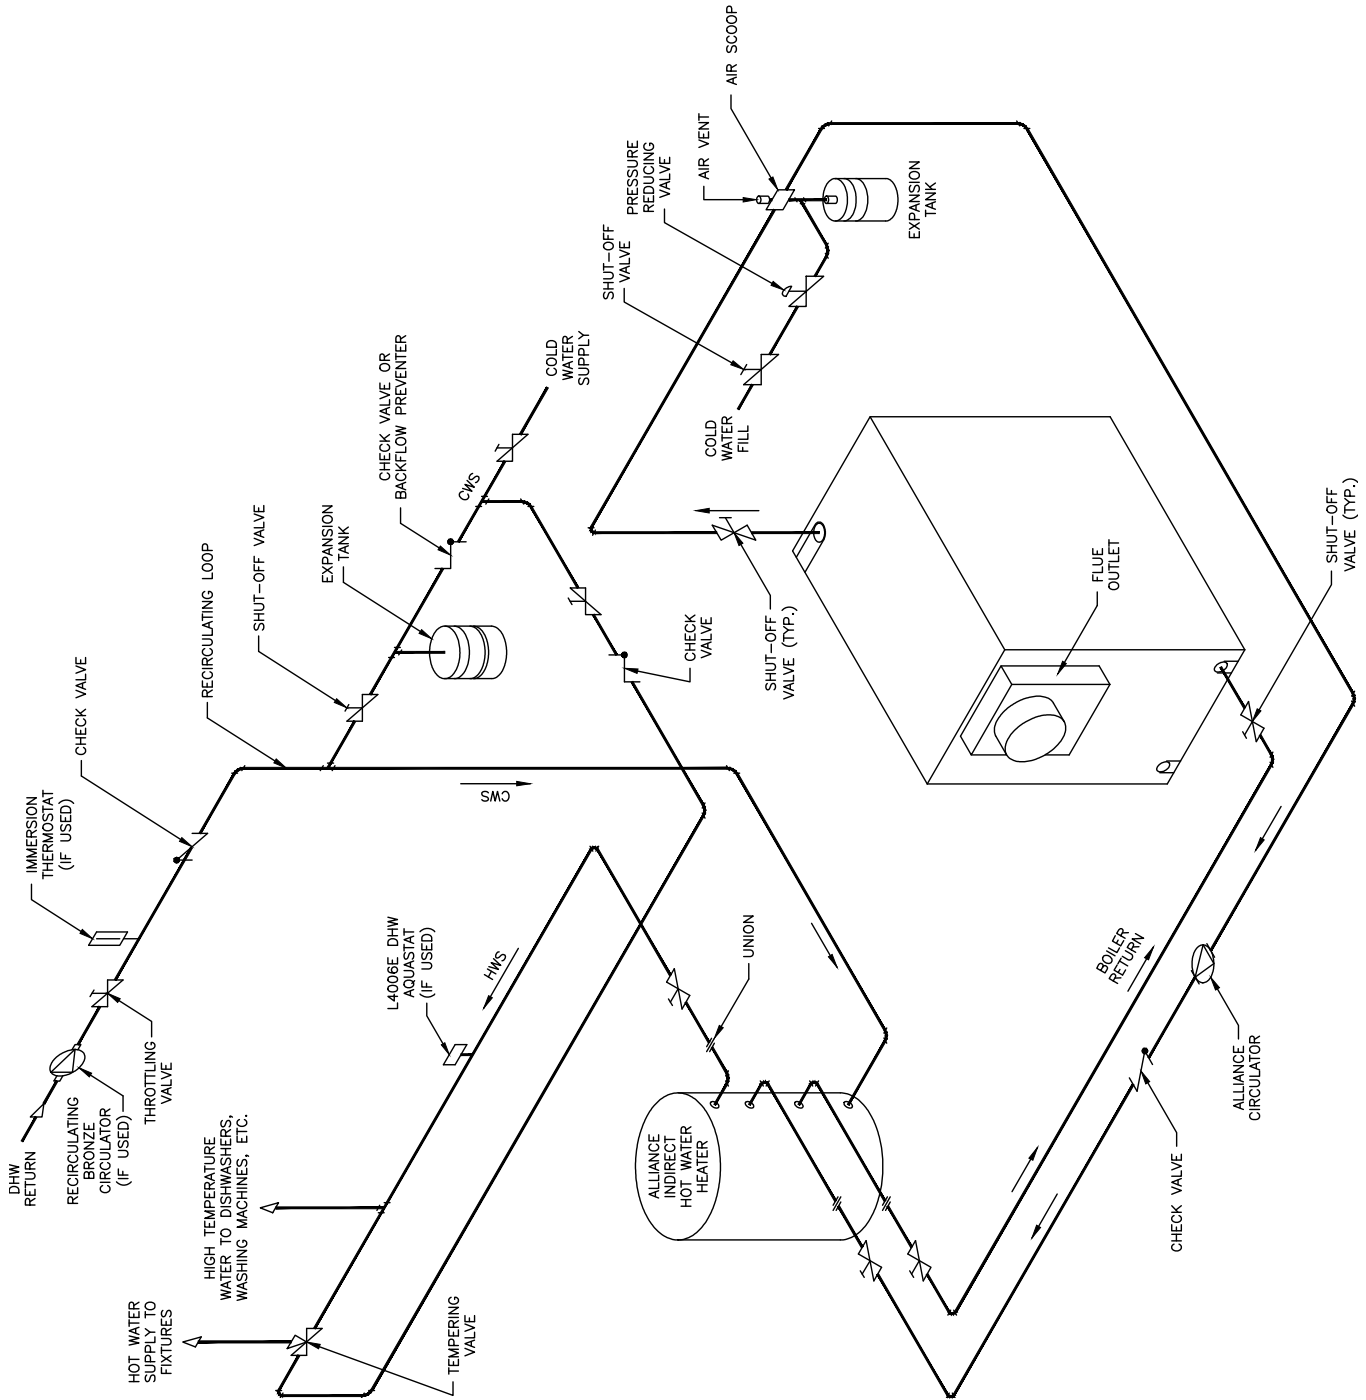

Figure 44b: DHW Generation with Indirect Water Heater
- Hot Water Boiler/Indirect Water Heater - The use of indirect water heaters for domestic hot water generation is common and somewhat advantageous over tankless coils alone, since they also provide DHW storage. A tempering valve and recirculating pump are again recommended for a dual temperature system, to provide a constant temperature to the fixtures without waiting for cooler water to warm up. Figure 44b shows a typical indirect heater piping application with no space heating. Indirect pump flow rates are calculated based on a 20°FDT.